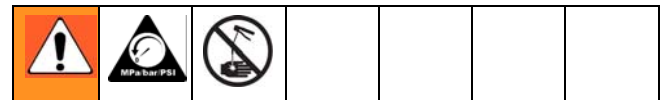

**FIG. 3**
2. If you are replacing the seals (9), the cam (8) or the push rod (3), remove the swivel (6) and remove the internal pieces. **You must remove the cam in order to get the push rod out of the valve end.**
3. Remove screws (7) and washers (10) and remove trigger (15).
4. Push cam (8) out of valve handle (1).
5. Replace seals (9) and/or cam (8).
7. Reassembly internal parts. Refer to FIG. 3 for correct installation order and orientation of parts.
8. Lubricate the cam (8) and slide it into the valve handle (1), making sure the notch is oriented as shown in FIG. 3, with the large end of the push rod (3) resting in the notch of the cam.
9. Replace the screws (7) and seals (9). Torque screws to 15 -25 in-lb (1.7 to 2.8 N•m).
10. Replace swivel (6). Torque to 7-10 ft-lb (31 to 44 N•m).